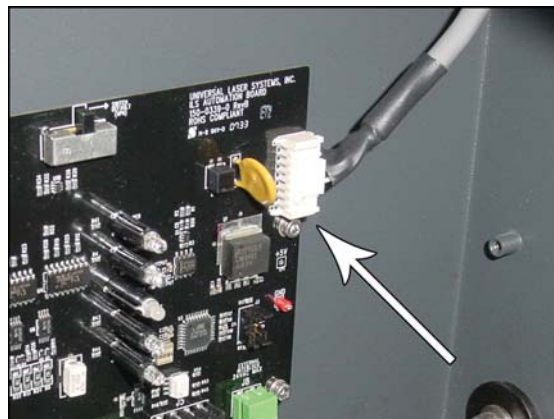

Figure 1
2. If Standard Air Assist is installed make the connection from the Automation board (Figure 1) to the CPU board with the wire labeled Accessory.
3. If the Computer Controlled Air Assist assembly is installed make the connection from the Automation board (Figure 1) to the Computer Controlled Air Assist board with the wire labeled Accessory.